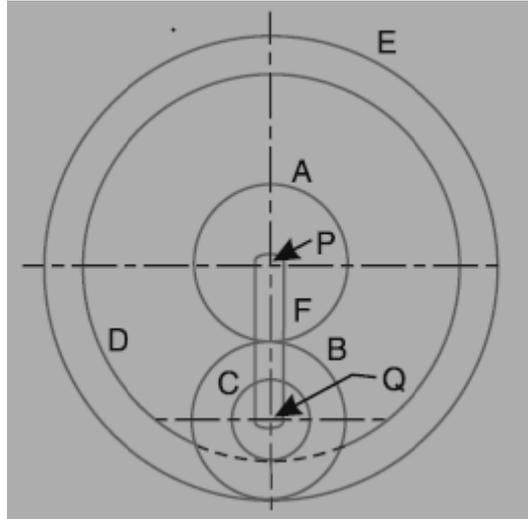

Fig.5
- (a) A compound epicyclic gear is shown diagrammatically in Fig.5. The gears A , D and E are free to rotate on the axis P . The compound gear B and C rotate together on the axis Q at the end of arm F . All the gears have equal pitch. The number of external teeth on the gears A , B and C are 18, 45 and 21 respectively. The gears D and E are annular gears. The gear A rotates at 100 r.p.m. in the anticlockwise direction and the gear D rotates at 450 r.p.m. clockwise. Find the speed and direction of the arm and the gear E .